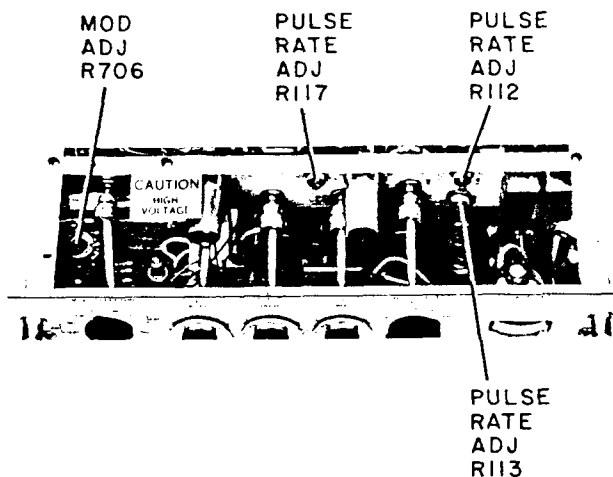

Figure 5-10. Location of Klystron and Modulator Adjustments (620B)
- d. Set MOD. SELECTOR to CW and measure klystron beam current with 428B Clip-on DC Milliammeter. Adjust potentiometer R706 (Figure 5-10) for 22-mA klystron beam current.